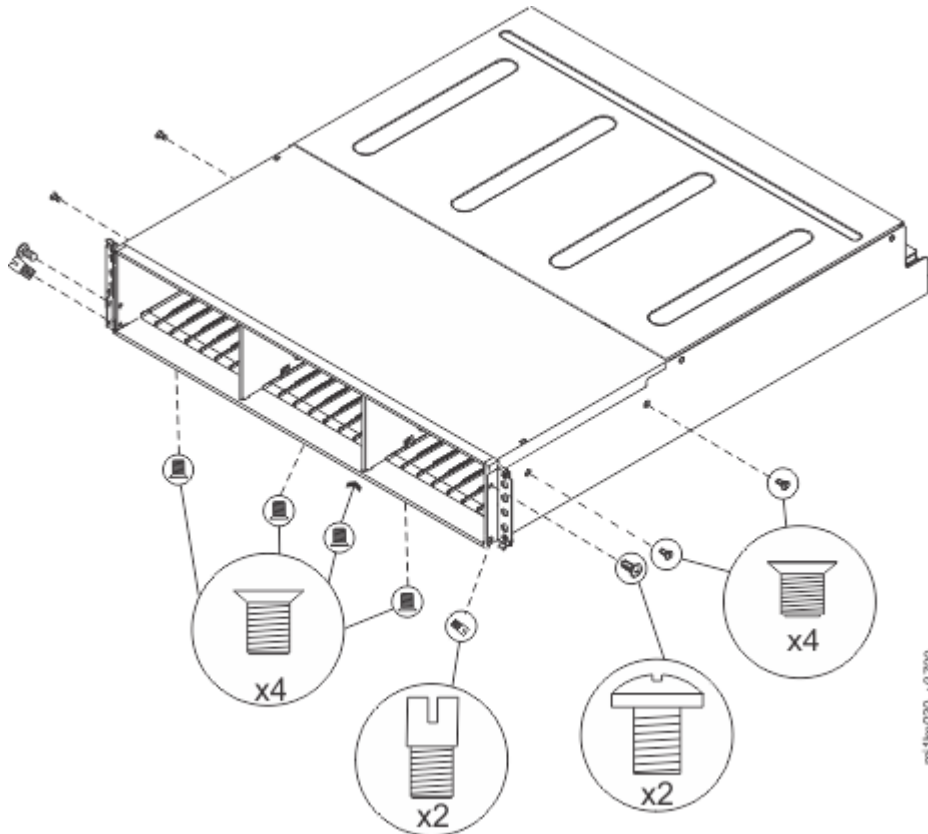

Figure 96. Removing the screws of an expansion enclosure assembly
12. Remove the four screws from the bottom of the enclosure (see Figure 96 on page 157). Remove the three screws that are near the front and the screw that is near the middle. Label these screws to indicate the location from which they are removed and place them aside.
14. Remove the three screws and one screw-pin on the right side that secure the midplane assembly to the enclosure (see Figure 96 on page 157). Label the screws to indicate the location from which they are removed and place them aside.
15. Remove the three screws and one screw-pin on the left side that secure the midplane assembly to the enclosure (see Figure 96 on page 157). Label the screws to indicate the location from which they are removed and place them aside. See Figure 4.